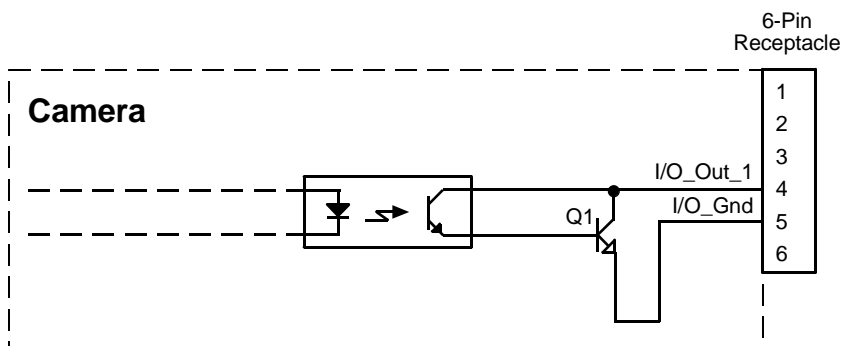

Fig. 52: Output Line Schematic (Simplified)
- A logical zero on Out_1_Ctrl results in a non-conducting Q1 transistor in the output circuit (see Figure 52).